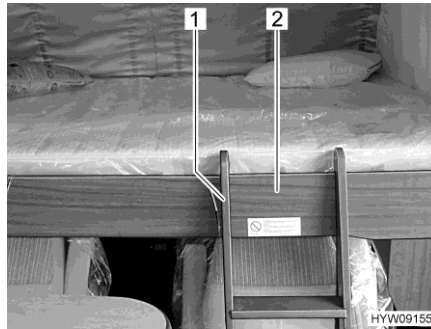

Fig. 108 Access ladder (pull-down bed)
- Hook the access ladder (Fig. 108,1) to the pull-down bed by attaching the two hooks in the bed surround (Fig. 108,2). When engaging make sure that the hooks rest on the inner fixtures. This prevents lateral movement of the access ladder.
- Unhook the access ladder (Fig. 108,1) from the bed surround (Fig. 108,2) on the pull-down bed.